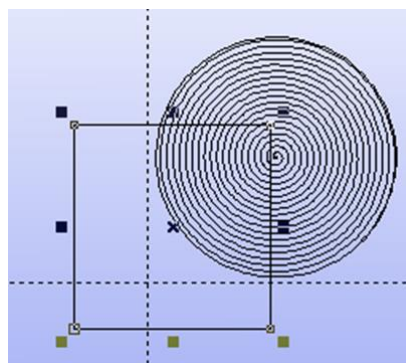

Figure 8.3 Background Fill
- (1) First draw a spiral;
- (2) Then draw a rectangle, as shown in Figure 8.3;